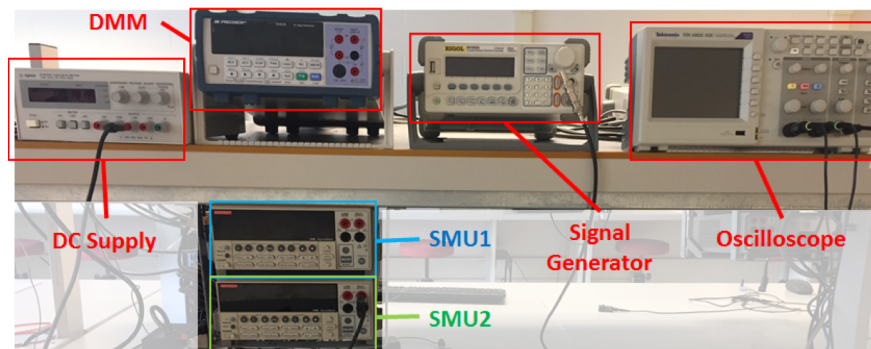

Fig. 1: ECE 2100 Lab Bench.
4. Examine the lab bench. Its appearance is shown in the photo below (see Fig. 1)